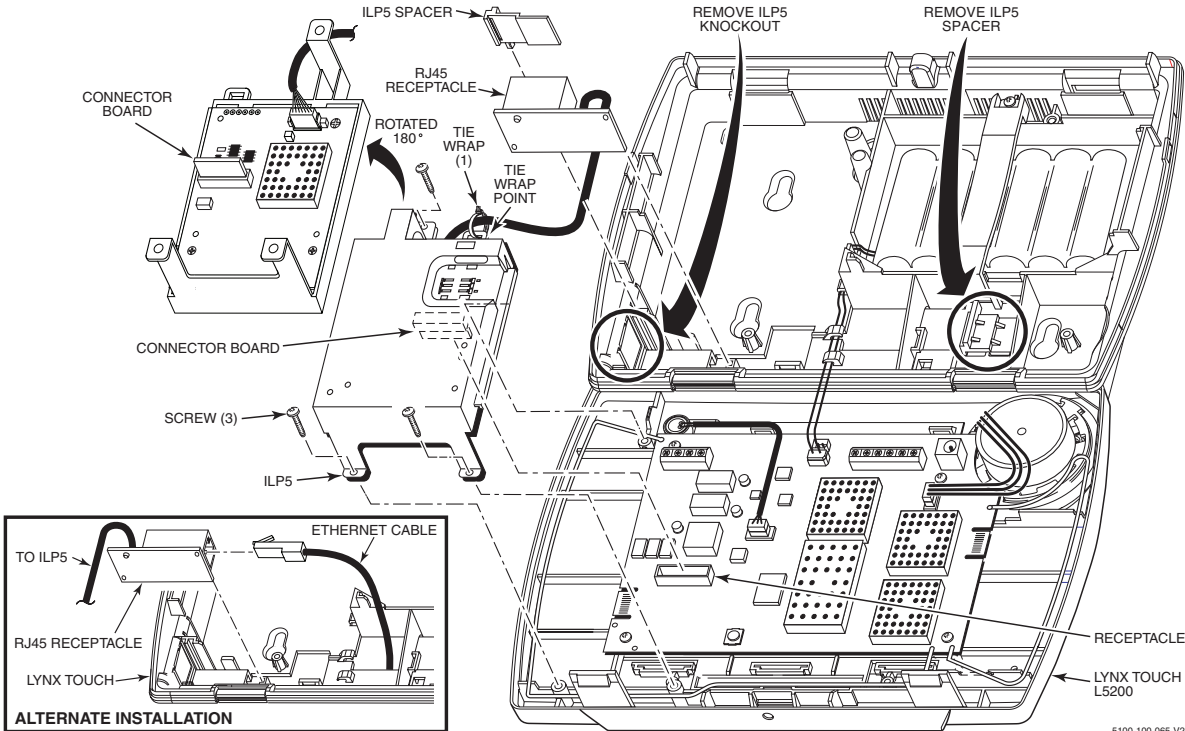

Figure 3. Installing the ILP5 in the LYNX Touch (L5200 Shown)
1. Release the LYNX Touch front case from the back case by depressing the two locking tabs at the top of the unit with the blade of a medium size screwdriver (Refer to Figure 3).
2. Using a wire cutter or knife cut the plastic tabs that secure the ILP5 spacer to the back case of the LYNX Touch (Refer to Figure 3).
3. Remove the ILP5 receptacle knockout from the left side of the LYNX Touch back case (Refer to Figure 3).
4. Install the ILP5 into the LYNX Touch control front case. Ensure that the connector board is properly seated into the receptacle on the control (Refer to Figure 3).
5. Secure the ILP5 with the three provided screws (Refer to Figure 3).
6. Insert the ILP5 receptacle and spacer into the slot on the back case (Refer to Figure 3).
7. Secure the communications cable to the tie wrap point on the ILP5 with the provided tie wrap (Refer to Figure 3).